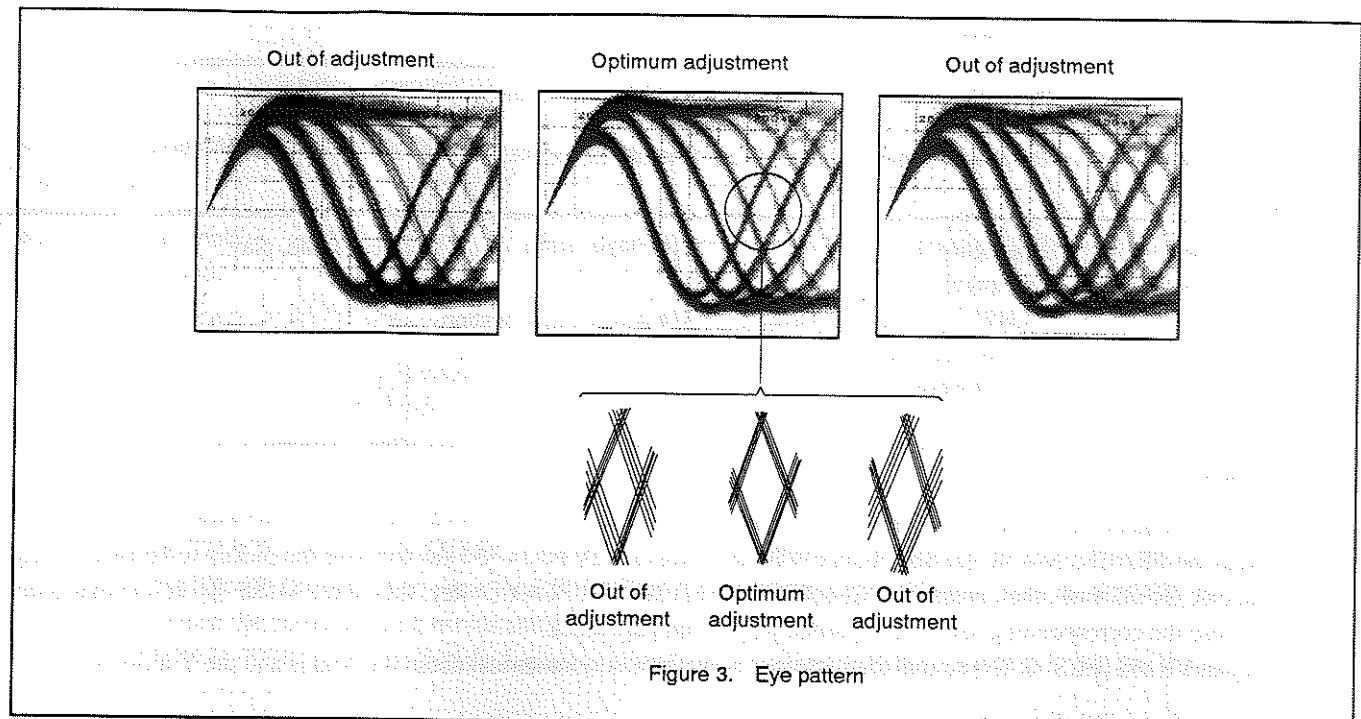

Figure 3. Eye pattern
4. Next, adjust the tangential tilt adjustment screw with a Phillips screwdriver so that the eye pattern (the diamond shape at the center of the RF signal) can be seen the most clearly (Figure 3).